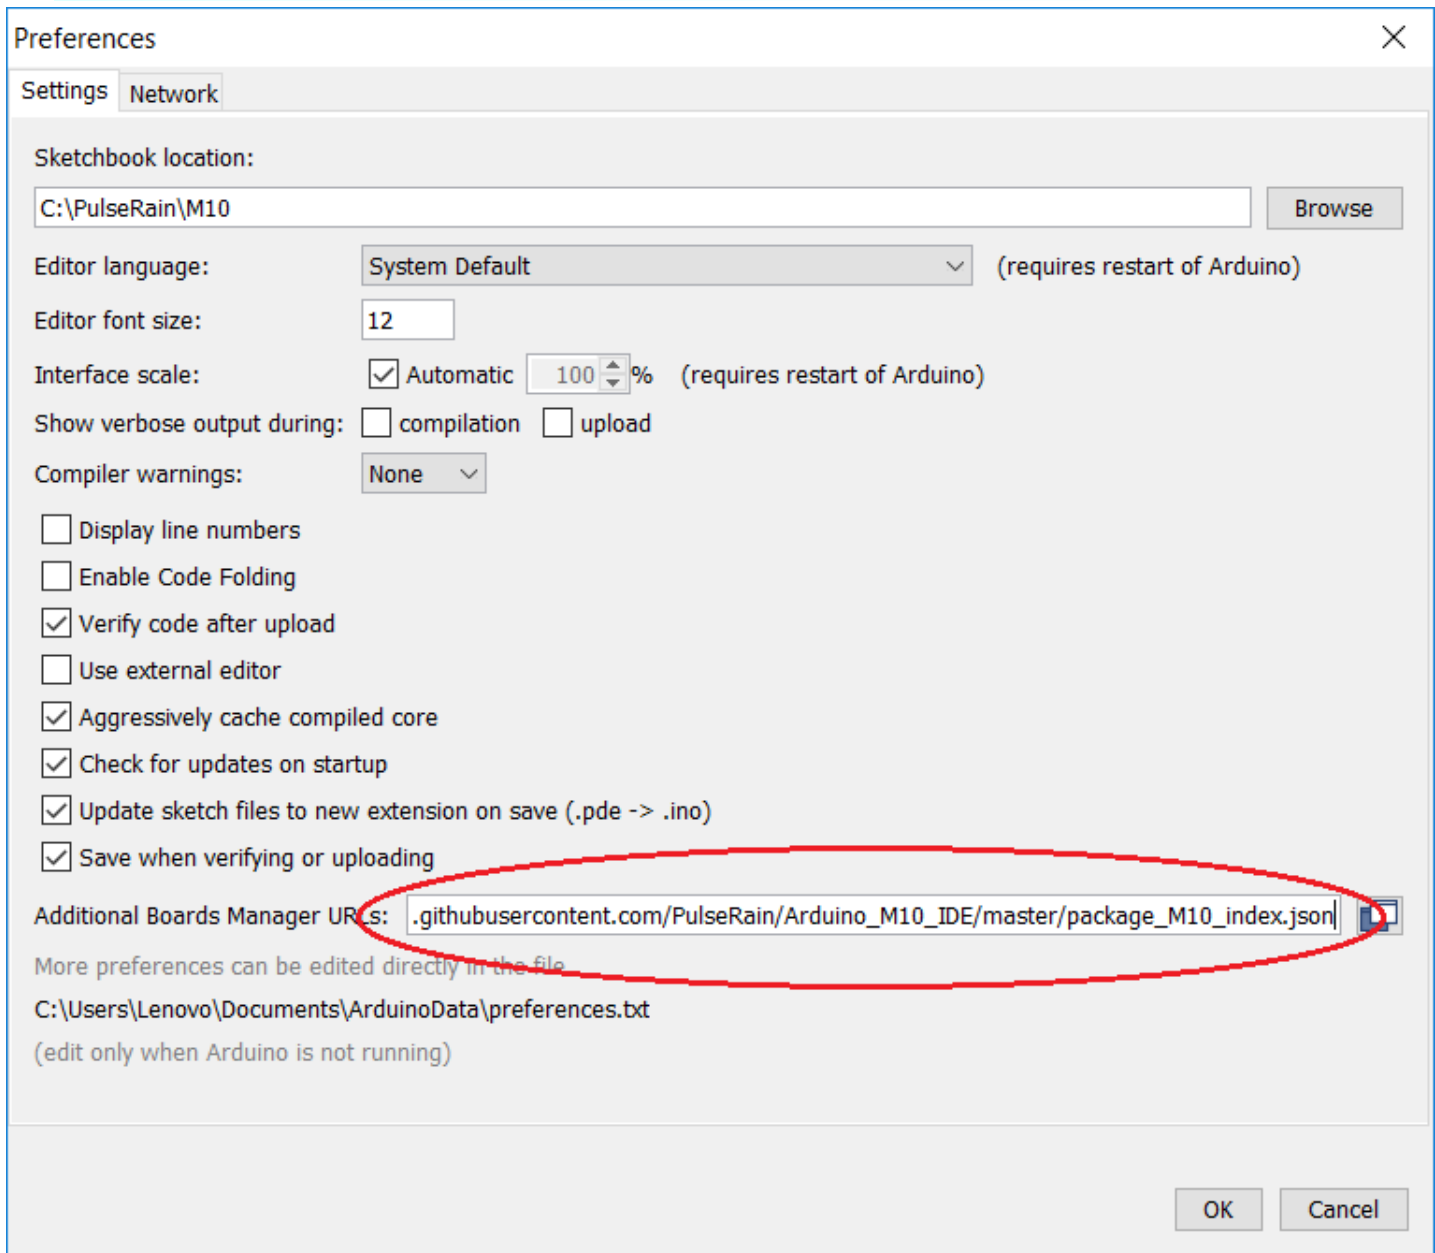

Figure 2-4 Arduino IDE, Preferences Dialogue
- 3) The File / Preferences menu will bring out a dialog like the one shown in Figure 2-4. Please set the "Additional Boards Managers URL" to